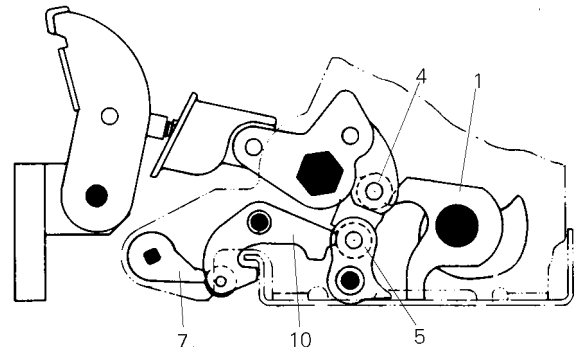

Figure 5-8. Breaker mechanism in the CLOSED position.
Figures 5-8, 5-9, and 5-10 show the mechanism components in the CLOSED, TRIPPED, and RESET conditions, respectively. Numbers in parentheses refer to the indicated items in the figures listed in Table 5-1. The closing spring is in the charged position for all of these details.
Closed Position – The movable contacts are pushed against the stationary contacts by the toggle linkage, as illustrated in Figure 5-8. The toggle linkage is held in position through the engagement of its cam roller (4), with the prop (1), the secondary latch/roller (5), the secondary latch (10), and the trip latch (7).
The breaker closes when the closing spring discharges and rotates the cam (2) against the cam roller (4). The toggle linkage is fully extended, pivoting the secondary latch (10) from the front frame and engaging it with the trip latch (7) and cam roller (4), as shown in Figure 5-8.
Table 5-1. Key to numbered parts in Figures 5-8, 5-9, and 5-10.